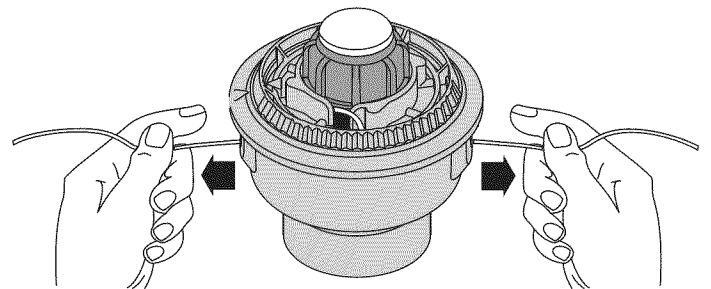

Fig. 16
9. If winding the line becomes difficult or if the line jams, pull the ends of the line from the spool (Fig. 16). Continue winding the inner reel counterclockwise until 4 inches of line remains on each side.